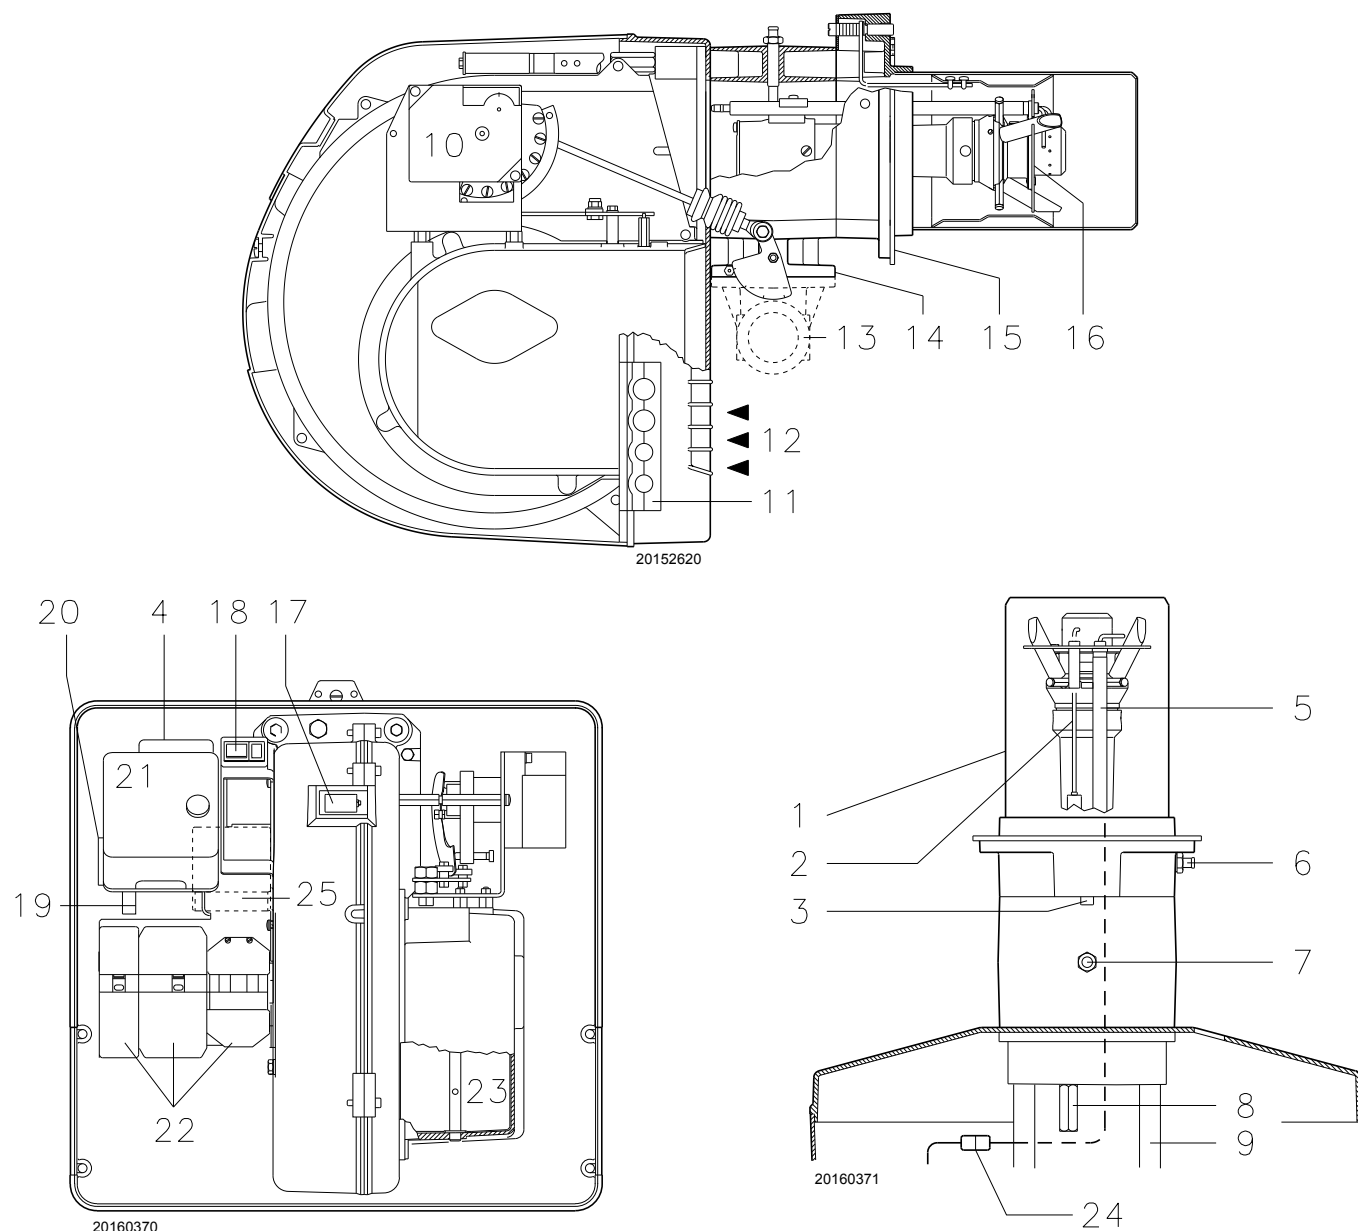

Fig. 5
- (1) Reference conditions: ambient temperature 20°C - Gas temperature 15°C - Barometric pressure 1013 mbar - Altitude 0 m a.s.l.
(2) Pressure at test point 7) (Fig. 5) with zero pressure in combustion chamber and at maximum burner output.
(3) Sound pressure measured in manufacturer's combustion laboratory, with burner operating on test boiler and at maximum output.
if the control box button (**red LED**) 22)(Fig. 5) lights up, it indicates that the burner is locked out. To reset, hold the push button down for between 1 and 3 seconds.